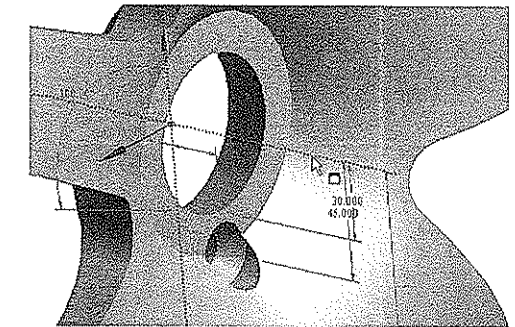

Figure 5-27 Selecting the axis about which the circular pattern will be created
8. Click on the X axis, refer to Figure 5-27; the selected axis is highlighted in yellow indicating that the X axis can now be specified as the axis of the circular pattern.